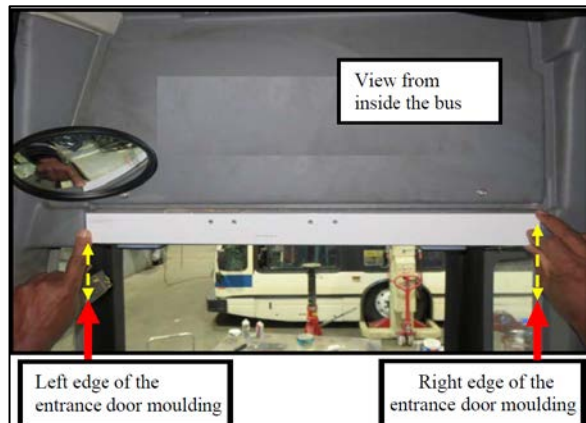

Figure 26
42. Align the drilling template (TA # 96-91-9451) with the new entrance door moulding and using a punch tool mark up the four drilling points (center points) (Figure 26).